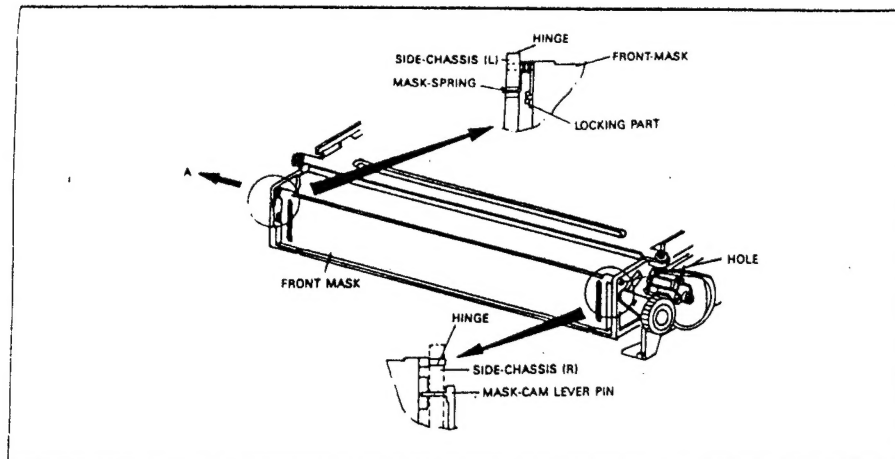

Fig. 14 Front Mask Removal
2-2-3. Housing Assembly Disassembly (Fig. 14 to 21)
1. Remove front mask. (Fig. 14)
• One end of the mask spring must be reinstalled at the locking part of the front mask and the other end must be reinstalled the hook part of the side chassis (L).
• Upon reinstallation of front mask slide part of right hand must be reinstalled in front of the mask cam lever pin. (Fig. 14)